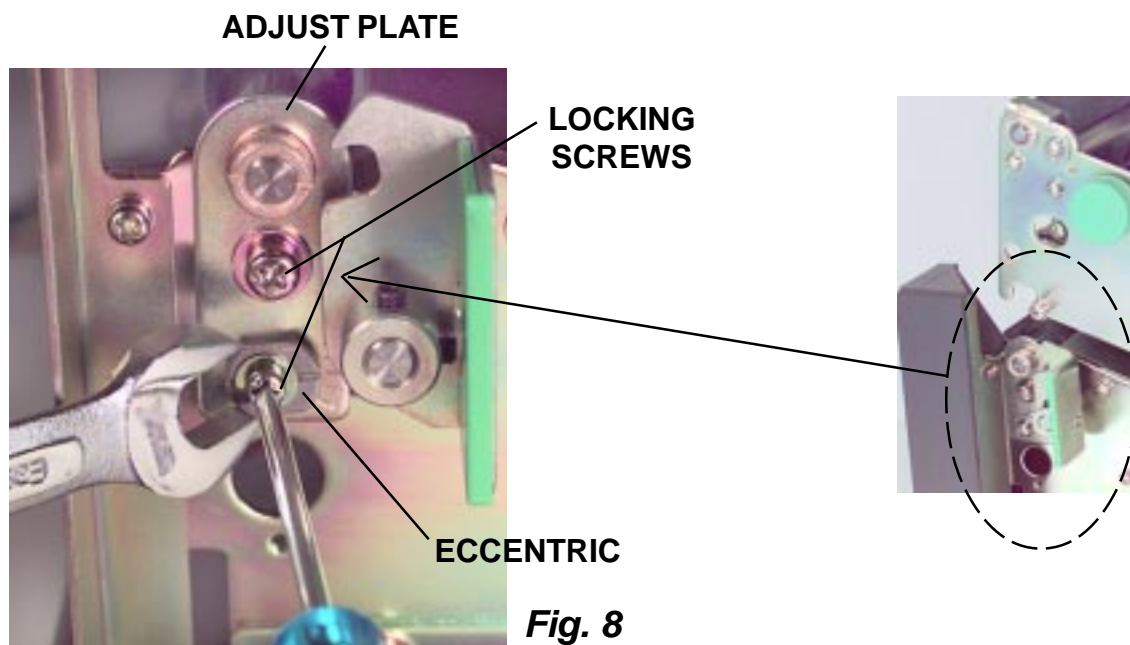

Fig. 8
3.	Loosen the locking screws. Fig. 8